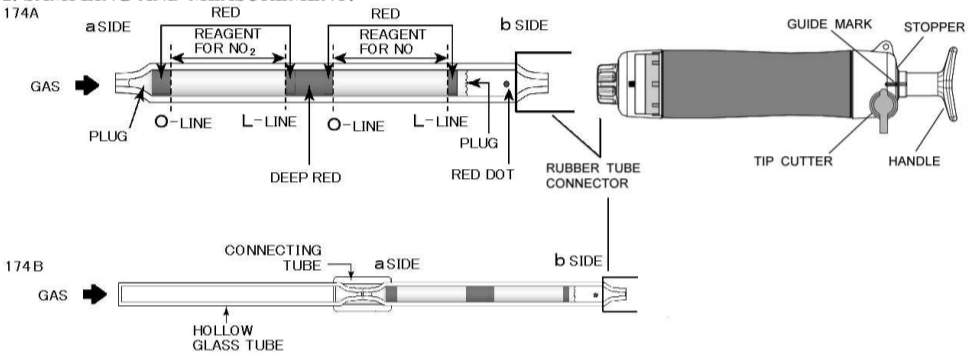
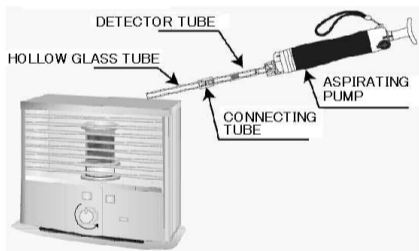
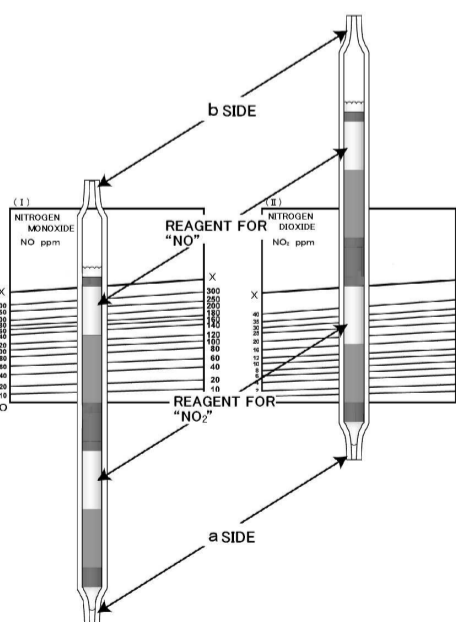

Fig.1
Fig. 2
Fig. 3
- ② Insert the end of the detector tube of the **b SIDE** into the aspirating pump securely as shown in Fig. 1.
- ③ Align the guide marks on the shaft and stopper of the aspirating pump.
- ④ Pull the pump handle at a full stroke until it locks and wait for 1.5 minutes or until the completion of sampling is confirmed with the flow indicator of the pump. (See descriptions about the flow indicator in the instruction manual of the pump.)
- ⑤ On completion of sampling, remove the detector tube from the pump and read a concentration with the concentration chart as shown in Fig. 3.
※ In case of 174B, connect the hollow glass tube to the detector tube with connecting tube as shown in Fig. 1 and Fig. 2.
1. Concentration charts (I), (II) for Nitrogen oxides are provided for reading each concentration of NO and NO₂ respectively.
2. Place the edge of the detecting reagent of the gas inlet side to the 0 - 0 line on the concentration chart and the other edge to the X - X line respectively to read out a each gas concentration of NO and NO₂ at the end of the discoloured layer as shown in Fig. 3.